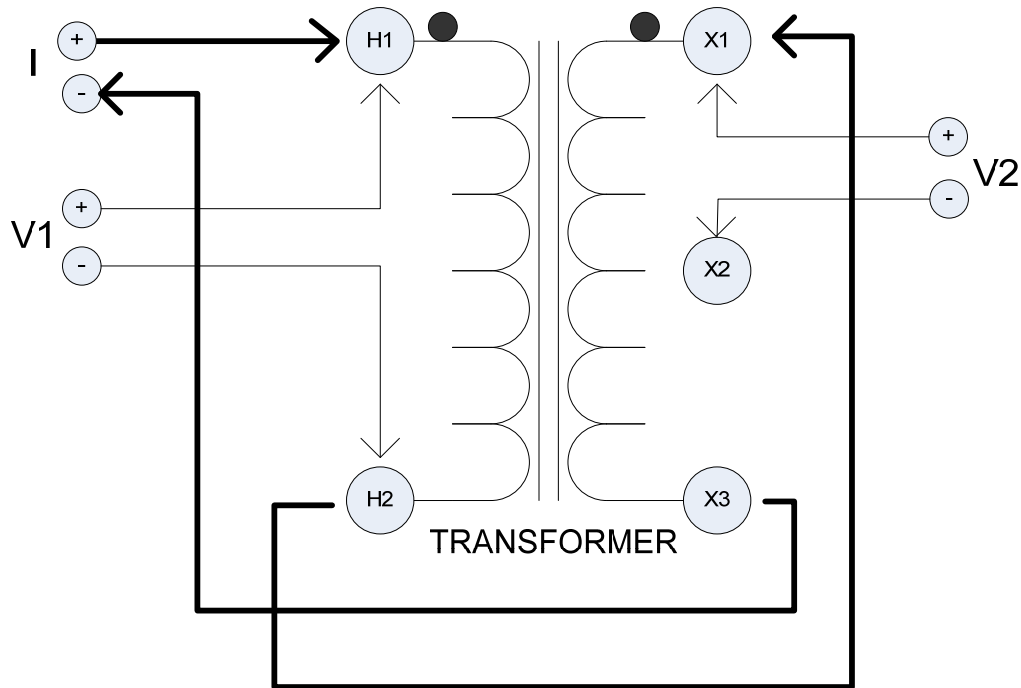

Figure 3: Dual-Winding Test
4. Connect "V1" voltage leads input to H1 and H2 terminals of test transformer. See *Figure 3*.
5. Connect "V2" voltage leads input to X1 and X2 terminals of test transformer. See *Figure 3*.
7. Press  to initiate current flow. The top display (I) indicates current output and the $\Omega 1$ display indicates resistance of primary winding and $\Omega 2$ display indicates the resistance of the secondary winding specimen.